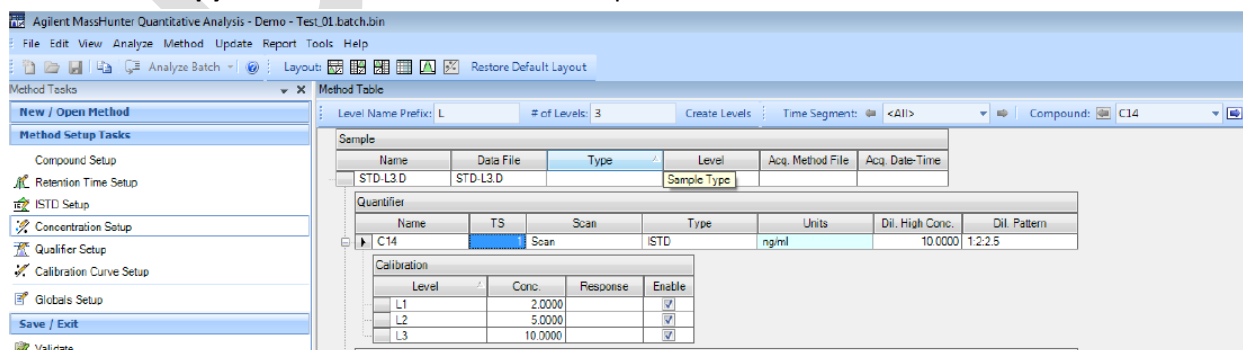

Fig.17
- g. Concentration setup (Fig.17). If all the target compounds have the same concentration, go to **Method** and **Copy Calibration Levels To** other compound.